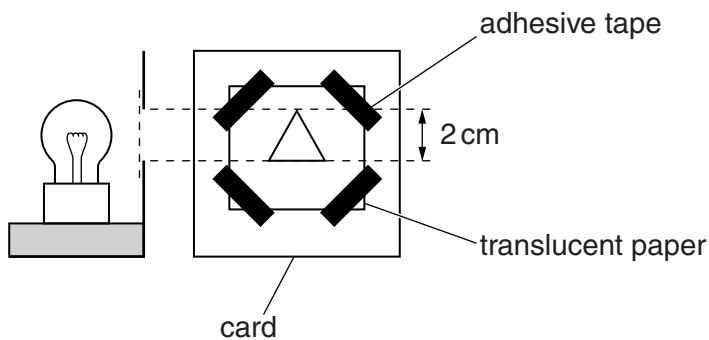

Fig. 2.1
- (iii) Illuminated object consisting of a white rigid card with a triangular hole of height approximately 2 cm. See Fig. 2.1 and notes 1 and 2. The back of the hole is to be covered with thin translucent paper (e.g. tracing paper) secured with adhesive tape.